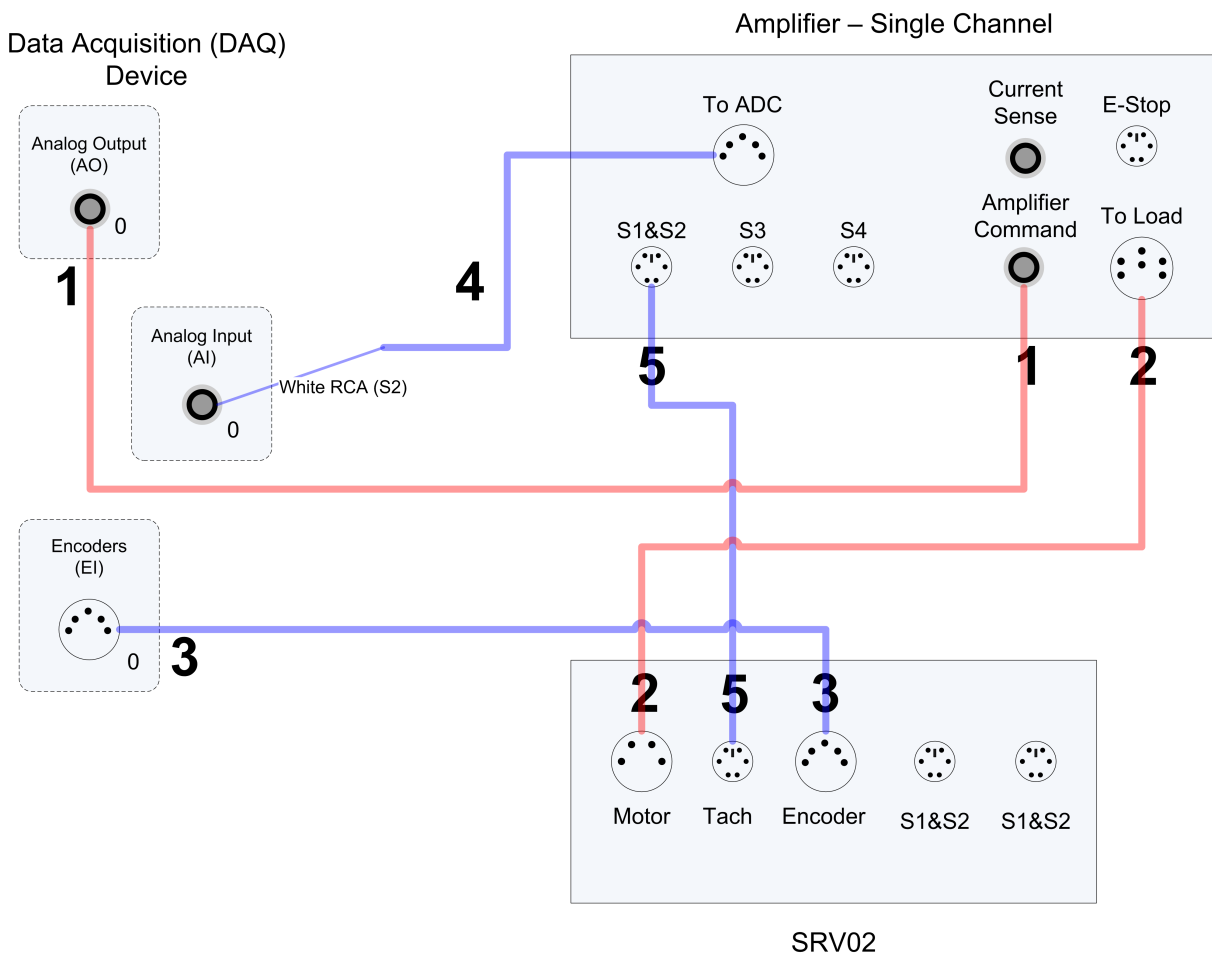

Figure 5.1: Connecting the SRV02 to a Single-Channel DAQ and Amplifier
This section describes the typical connections used to connect the SRV02 plant to a data acquisition device and a power amplifier. **Only the encoder and tachometer sensors are connected (i.e., potentiometer is NOT used).** The connections are summarized in Table 5.2, and pictured in Figure 5.1. Connection details are given below.
**Note:** The wiring diagram shown in Figure 5.1 is using a generic data acquisition device. The same connections can be applied for any data acquisition system that has 1x analog input, 1x analog output, and 1x encoder input (e.g., single Q1-cRIO module).
3. Connect one end of the 2xRCA to 2xRCA cable from the Analog Output Channel #0 on the terminal board to the *Amplifier Command* connector on the amplifier, i.e., use both white or both red RCA connectors. See cable #1 shown in Figure 5.1.
4. Connect the 4-pin-stereo-DIN to 6-pin-stereo-DIN that is labeled from *To Load* on the amplifier to the *Motor* connector on the SRV02. See connection #2 shown in Figure 5.1.
5. Connect the 5-pin-stereo-DIN to 5-pin-stereo-DIN cable from the *Encoder* connector on the SRV02 panel to Encoder Input # 0 on the terminal board, as depicted by connection #3 in Figure 5.1.
6. Connect the *To ADC* socket on the amplifier to Analog Inputs #0-1 on the terminal board using the 5-pin-DIN to 4xRCA cable, as illustrated in Figure 5.1. The RCA side of the cable is labeled with the channels: yellow is S1, white is S2, red is S3, and black is S4. The yellow S1 connector goes to Analog Input Channel #0 and the white S2 connector goes to Analog Input Channel #1.
7. Connect the *TACH* connector on the SRV02 to the *S1 & S2* socket on the SRV02 using the 6-pin-mini-DIN to 6-pin-mini-DIN cable. This connection is labeled #5 in Figure 5.1. It combines the potentiometer (S1) measurement with the tachometer (S2) measurement.
8. Connect the *S1 & S2* connector on the SRV02 to the *S1 & S2* socket on the amplifier using the 6-pin-mini-DIN to 6-pin-mini-DIN cable. See connection #6 in Figure 5.1. This carries the potentiometer (S1) and tachometer (S2) signals.
7. Connect the *TACH* connector on the SRV02 to the *S1* & *S2* socket on the SRV02 using the 6-pin-mini-DIN to 6-pin-mini-DIN cable. This connection is labeled #5 in Figure 5.1. It combines the potentiometer (*S1*) measurement with the tachometer (*S2*) measurement.
8. Connect the *S1* & *S2* connector on the SRV02 to the *S1* & *S2* socket on the amplifier using the 6-pin-mini-DIN to 6-pin-mini-DIN cable. See connection #6 in Figure 5.1. This carries the potentiometer (*S1*) and tachometer (*S2*) signals.
**Note:** The wiring diagram shown in Figure 5.1 is using a generic data acquisition device. The same connections can be applied for any data acquisition system that has least 2x analog inputs, 1x analog output, and 1x encoder input.